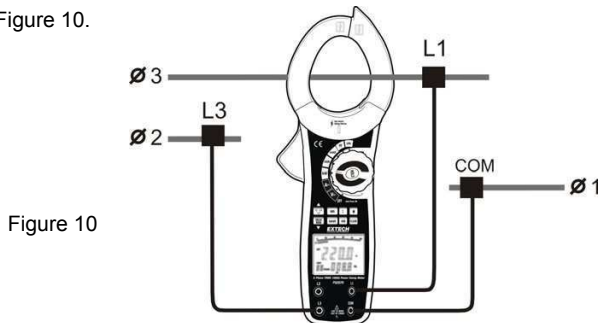

Figure 10
Connect the Meter as shown in Figure 10.
1. Insert the Red (L1) and Blue (L3) test leads into the **L1**, **L3** meter input terminals and connect these to 2 separate phases of the circuit under test as shown in Figure 10.
2. 3-phase - Connect the meter as shown in Fig. 7 (3P4W) or Fig. 10 (3P3W)
2. Connect the meter as shown in Fig. 7 (3P4W) or Fig. 10 (3P3W) for 3-phase connections.